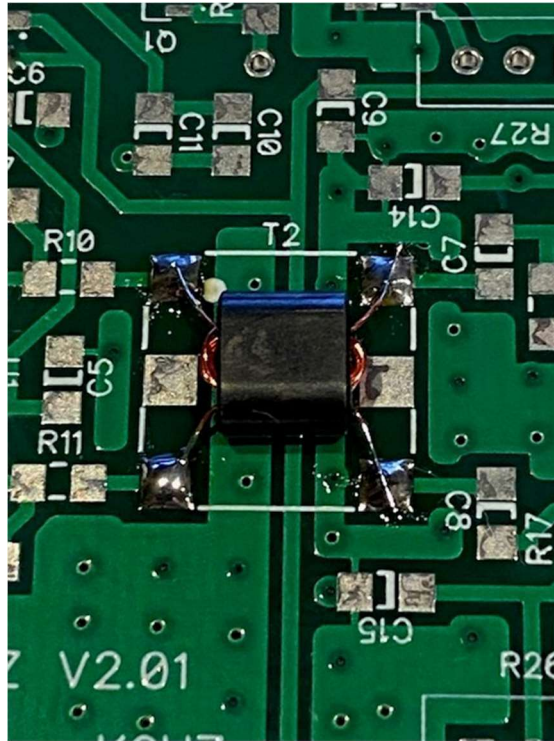

Figure 16. T2 Transformer Soldered In Place On The PCB.
- vii. Solder the transformer into place paying attention to the PRIMARY and the SECONDARY sides of the transformer (see Figure 16).